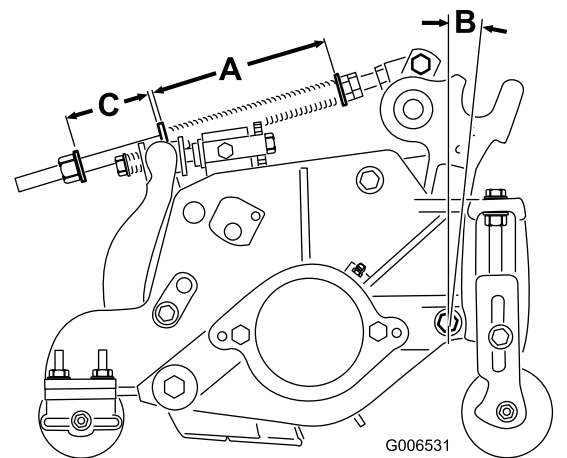

Figure 21
The Turf Compensation Spring (Figure 21) transfers weight from the front to rear roller. This helps to reduce a wave pattern in the turf, also known as bobbing.
1. Tighten lock nut on rear of spring rod until the gap (C) between rear of spring bracket and front of washer is 2 in. (51 mm) (Figure 21).
2. Tighten hex nuts on front end of spring rod until the compressed length (A) of spring is 6.25in. (159 mm) (Figure 21).
Note: When cutting undulating turf, increase the compressed spring length (A) and the gap width (C) 1/2 inch (Figure 21).